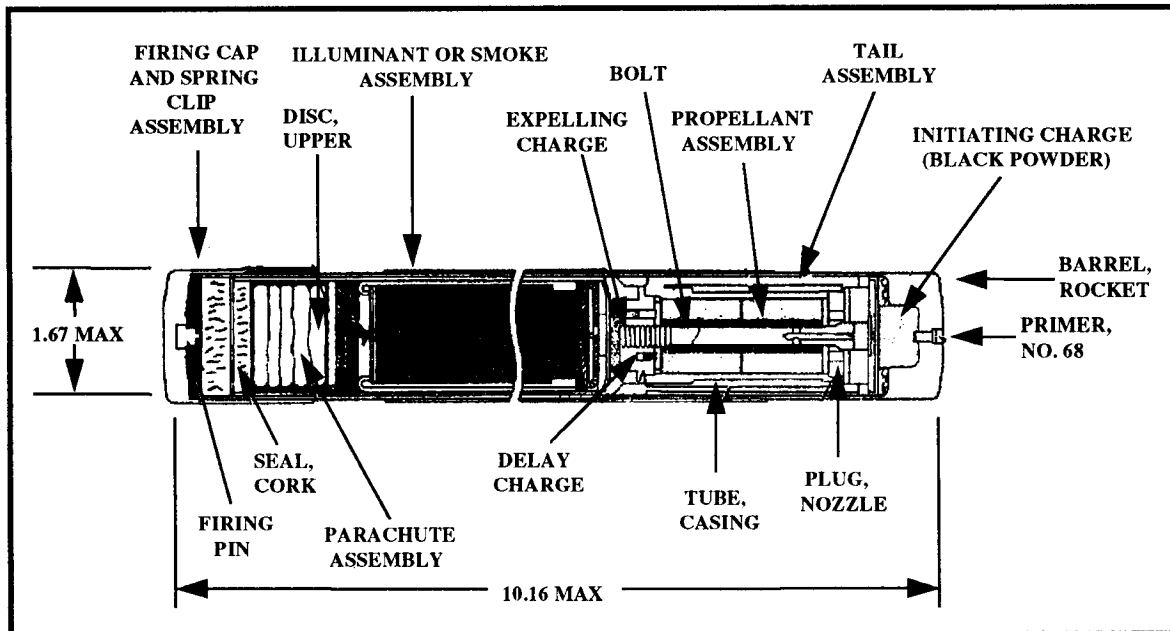

Figure 9-1. Signal, illumination red star, parachute - M126A1
a. **Signal, Illumination, Ground, Red Star, Parachute, M126A.** This rocket-propelled, fin-stabilized device, is a hand launched distress signal for watercraft operating in ocean or coastal waters. A description of the signal is shown in Figure 9-1, page 9-3.